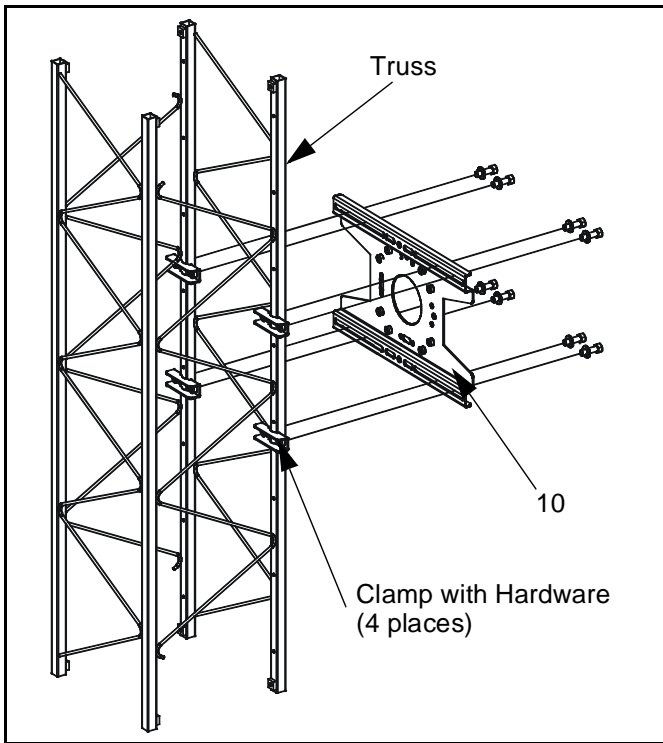

Figure 5: Install Truss Plate to Truss
5. Secure truss plate to truss by tightening clamp hardware. (see Figure 5)